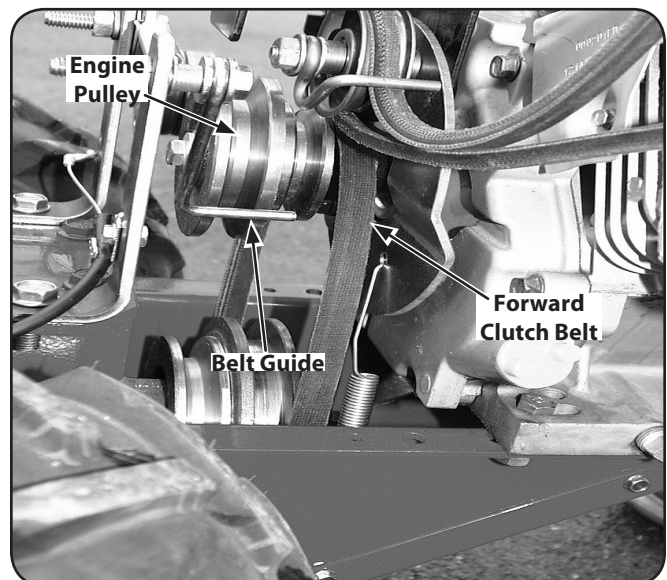
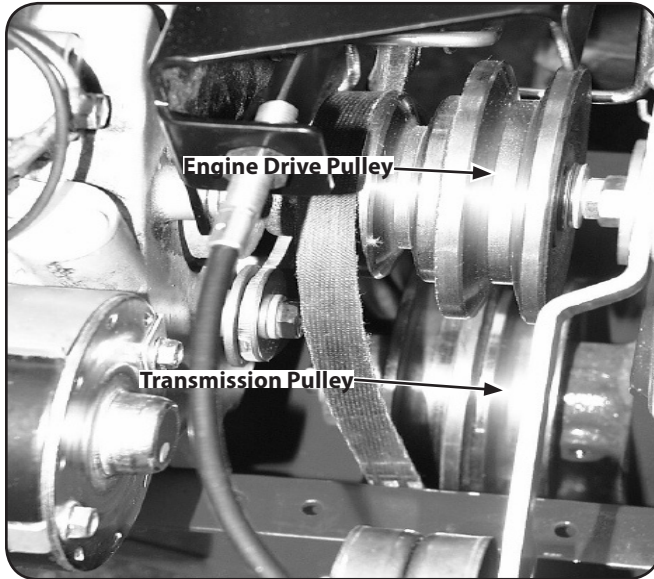

Figure 7-3
Figure 7-4
5. Slide the belt off the engine pulley, away from the engine, out from under the belt guide and completely off the pulley. See. Figure 7-3.
6. Slip the belt off the front of the transmission pulley. See Figure 7-4.
9. Insert the bottom half of the belt into the smaller, rear-most groove of the transmission pulley. See Figure 7-4. Now slip the top half of the belt under the belt guide (See Figure 7-3) and onto the large groove of the engine drive pulley. See Figure 7-4.